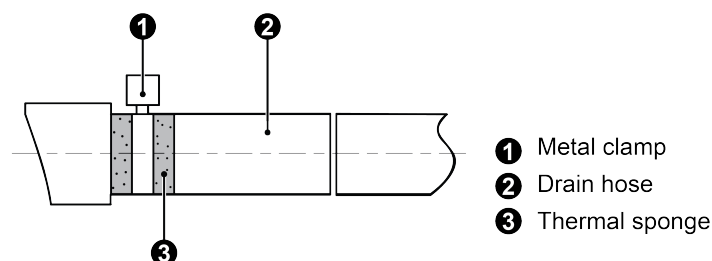

Fig.4.35
- (1) Insert the drainage hose into drain outlet and then bundle it with adhesive tape, as shown in Fig.4.35. Model with water pump will be provided with drain hose, while other models please prepare the drain hose by yourself.